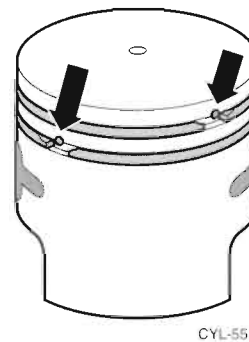

Figure 7.6 Piston Ring Locating Pins
STEP 1. Before tightening the threaded screw on the pin remover, make sure both piston ring end gaps are correctly oriented over their locating pins in the piston ring grooves (Figure 7.6),